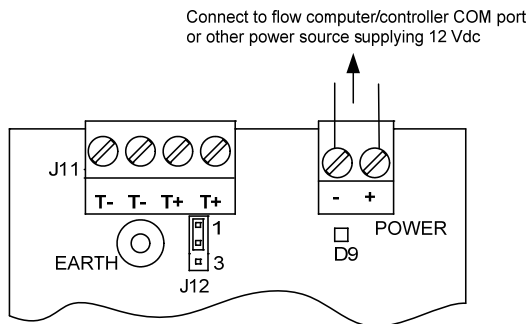

Figure 14: Wiring for power
3. Insert the wires in the power connector observing correct polarity (Figure 14).